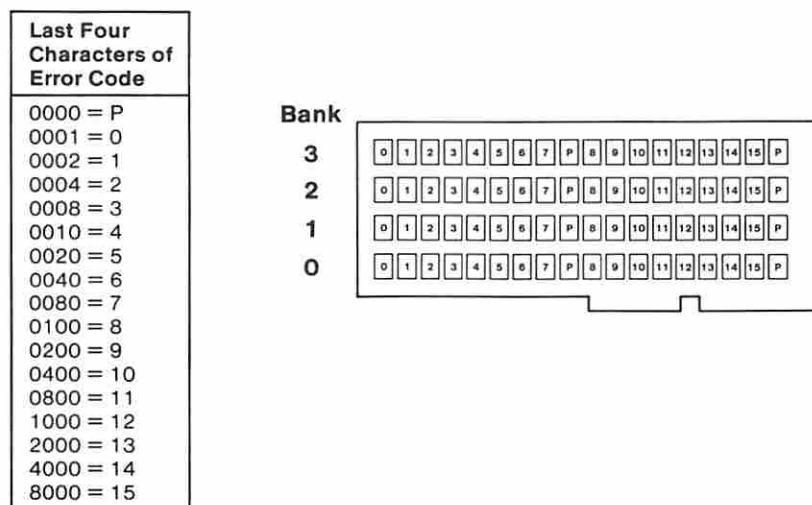

Figure 29. 512/2M Memory Expansion Option
- Refer to Figure 29 and find the failing memory module identified by the error code.